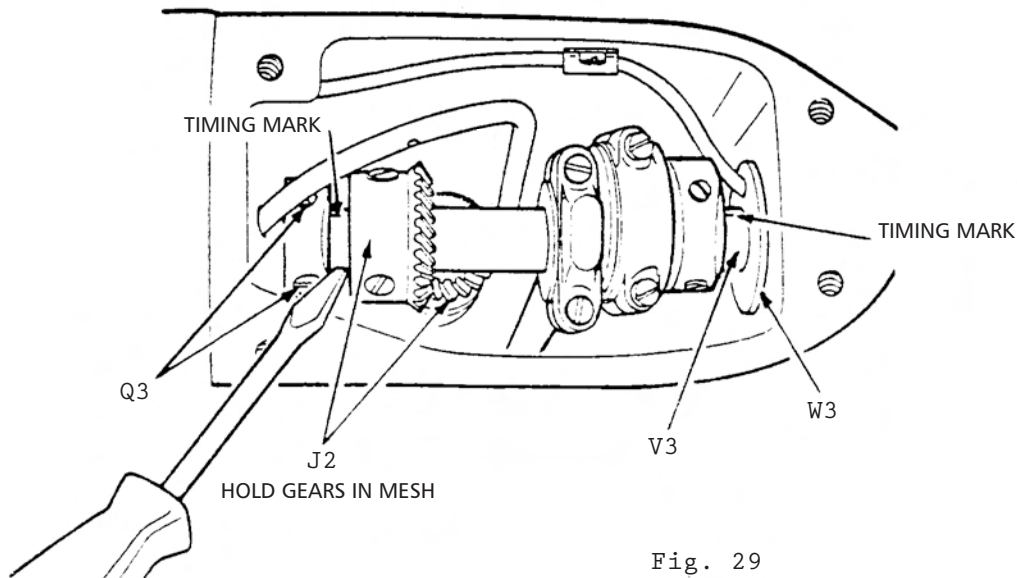

Fig. 29
CAUTION: The feed-timing-bevel-gears at J2, Fig. 29 have been lapped together at the factory and should be kept in mesh (as instructed in Fig. 29) throughout the removal and replacement of the arm shaft.
11. While maintaining needle bar crank T3 at position shown in Fig. 39, hold these gears in mesh by holding the blade of a large screwdriver between thrust collar and bevel gear as shown in Fig. 29; then push the end of the arm shaft V3, Fig. 29 through the bushing W3, Fig. 29.